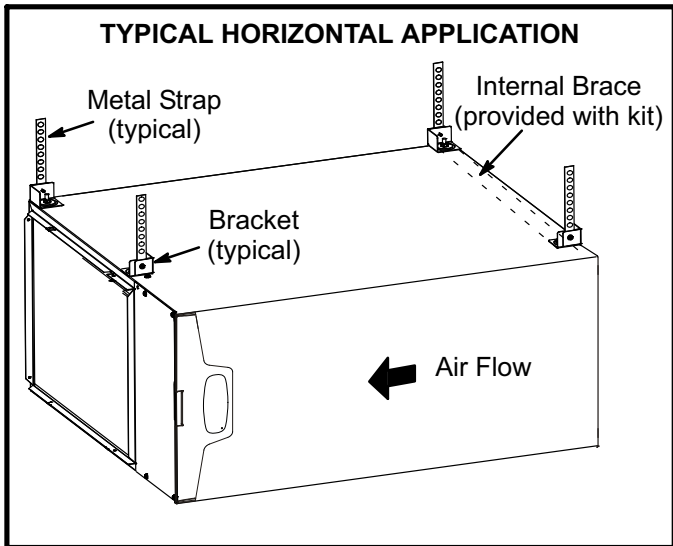
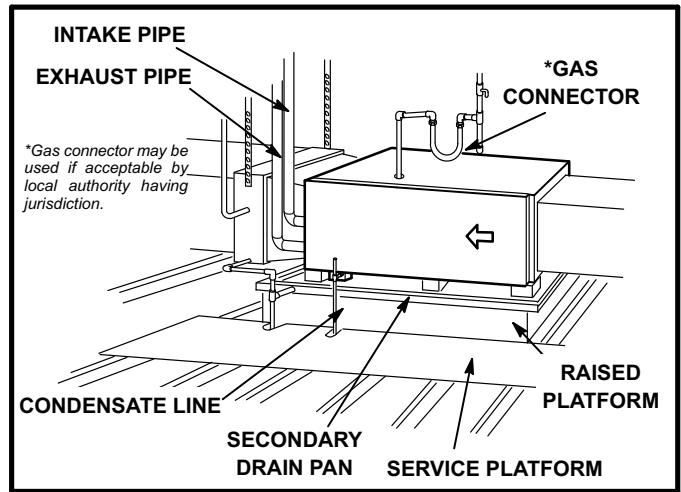

FIGURE 12
FIGURE 13
This furnace may be installed in either an attic or a crawl-space. Either suspend the furnace from roof rafters or floor joists, as shown in figure 12, or install the furnace on a platform, as shown in figure 13. A horizontal suspension kit (51W10) may be ordered from Lennox or use equivalent.
- 2 - Construct a raised wooden frame and cover frame with a plywood sheet. If unit is installed above finished space, fabricate an auxiliary drain pan to be installed under unit. Set unit in drain pan as shown in figure 13. Leave 8 inches for service clearance below unit for condensate trap.